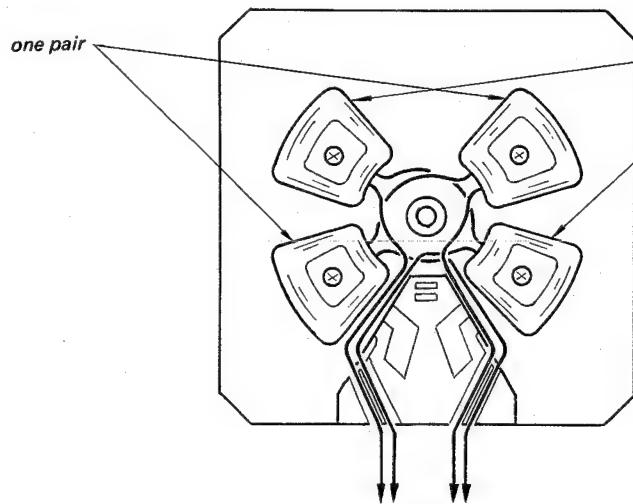

Fig. 2-16
- c). Lay the leads of the coils as shown in Fig. 2-16 and fix the leads in the slot between the portions marked by \* in Fig. 2-17.